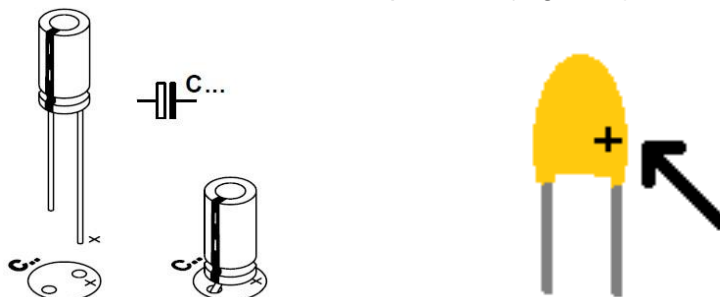

Figure 1: Determining Capacitor Polarity
- 2) C2 is the tantalum capacitor and C3 is the electrolytic capacitor with the cylindrical shape. These capacitors are polarized, so find the negative side (C3; shown as a "-" stripe down one side) and place it accordingly on the board. C2 is also polarized and should have a "+" marking near one side to show which lead is positive. (Figure 1)